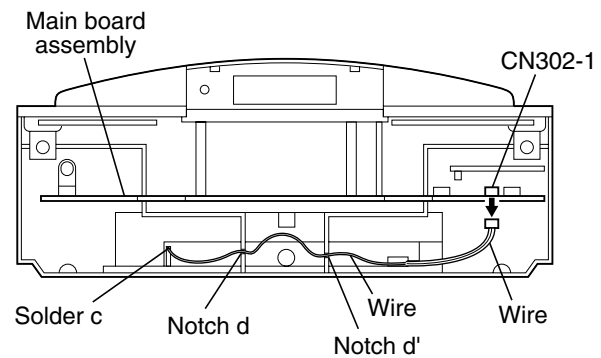

Fig.11
■ Removing the battery board assembly (See Fig.11 and 12)